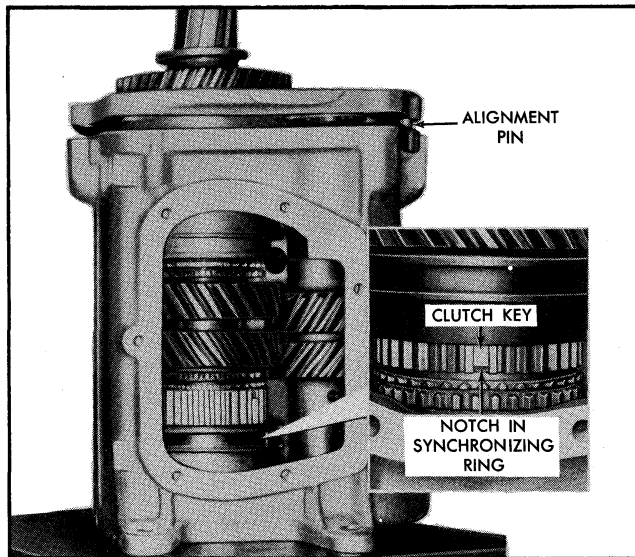

Fig. 7A-33 Installing Mainshaft Assembly
12. Lower the mainshaft assembly into the case making certain the notches on the fourth speed synchronizing ring correspond to the keys in the clutch assembly (Fig. 7A-33).